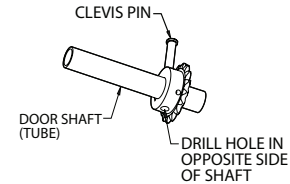

Figure 6B
- 3) Drill through opposite side of shaft to obtain proper hole alignment. **Fig. 6B.**